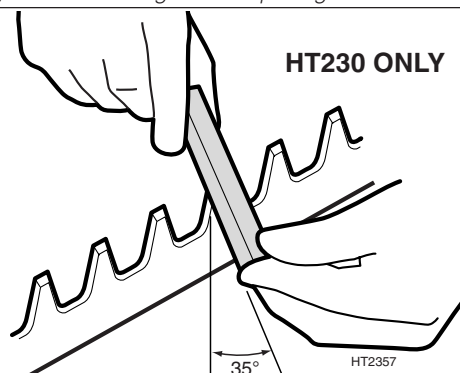

Figure 38. Beveling the cutter tips.
STEP 4. HT230 ONLY. Use a rough grinding stone held at a 35° angle to restore the original bevel to the cutter tips (Figure 38).